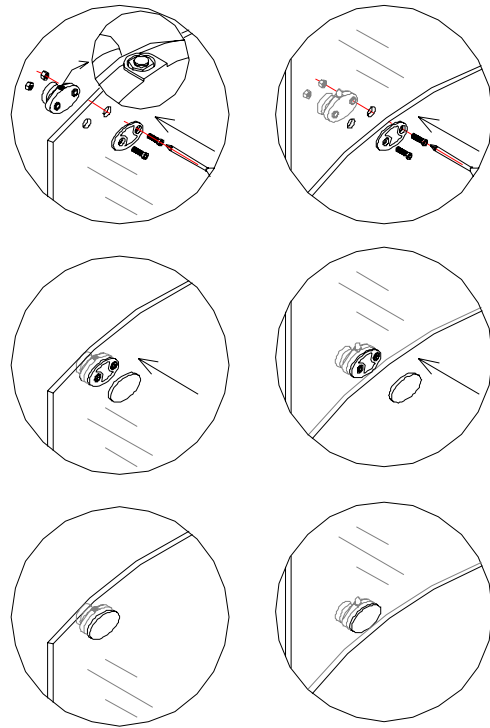
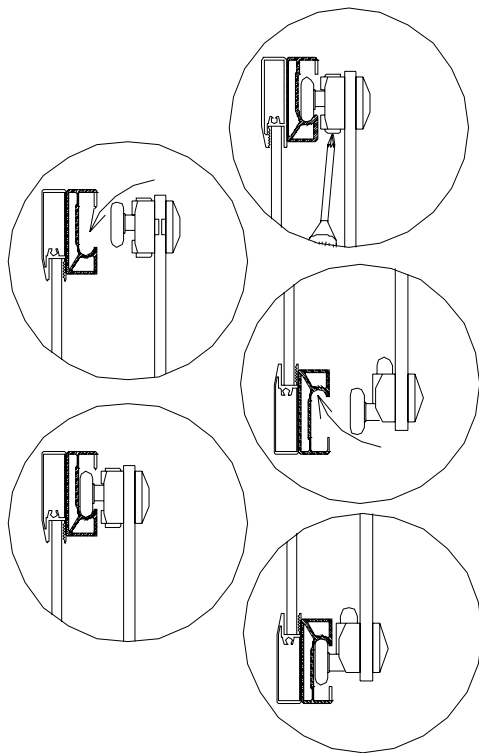

Fig 10
Fig 11
10. Your unit can be shipped to you with the wheel assemblies installed on the doors. If not, please refer to diagram (fig 10) how to install it. Attach the top and bottom wheels to the glass doors. The wheel that goes on the top has an adjustable screw and nut to adjust the door level. Note that the lock nut of upper wheel should face up. The bottom wheel has a press button to fix the wheel on the bottom guide rail; that button should face up (fig 11);